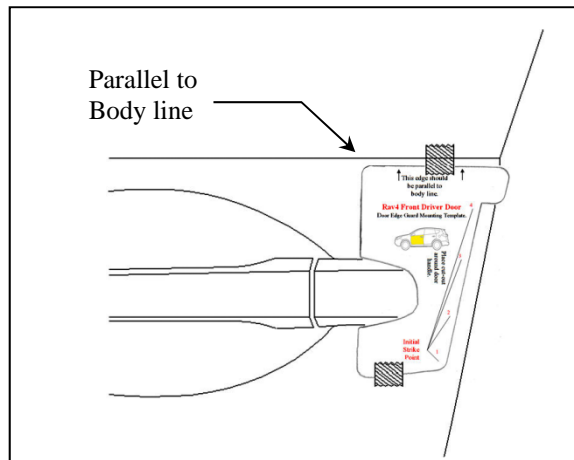

Fig. 2-3
- (1) Select the front door template and fit the notch around the door handle. Adjust it as needed to ensure it is parallel to the body line directly above the template. If needed, tape it into place using painter’s masking tape (Fig 2-3).